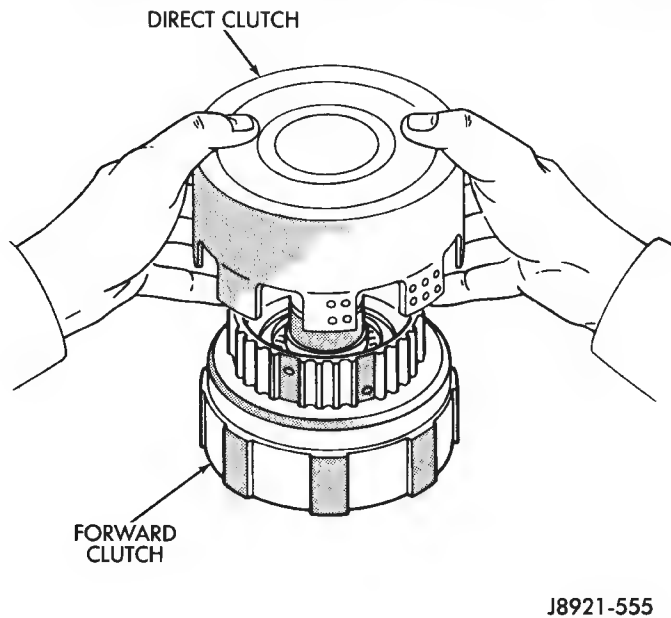

Fig. 1 Separate Direct Clutch From Forward Clutch
- (1) Remove direct clutch from forward clutch (Fig. 1).